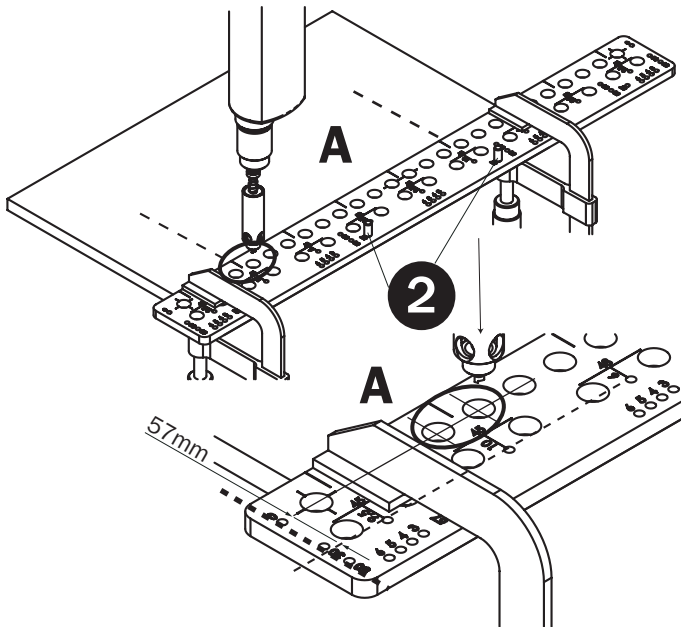

Fig. 15
Insert two metal pins (**pos. 2**) in 57 holes (**Fig. 15**). Position the **CMT900** on the work piece so that the central axis of the chosen hinge spacing on the template is aligned with the central axis on the work piece and the pins are up against the front edge of the work piece. Use the **CMT400-1** adaptor chuck with a drill bit for $\varnothing 3\text{mm}$ blind holes for wood screws or $\varnothing 5\text{mm}$ for euro screws.
Make certain that the stops are up against the front edge of the board and the hinge axis on the drilling template is at the same place as the hinge axis on the work piece. Fix the drilling template to the work piece using clamps. Set the drilling depth of the adaptor chuck according to the wood screws used. Insert the adaptor chuck with the relative drill bit in the main row of holes and drill a hole to the right of the axis and another to the left of the axis (**detail Fig. 15**). Make certain the drill rotates in the correct direction – these are right-hand bits.